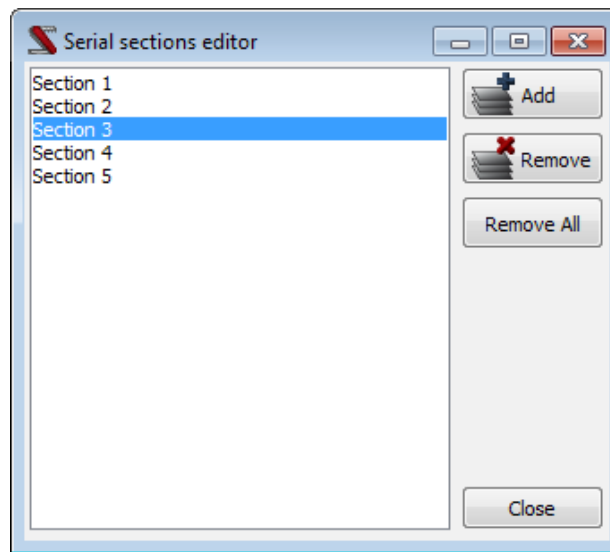

Figure 6.29: *Managing sections*
5. Open the serial sections editor (Fig. 6.29) by clicking on the button to the right of the active section display. Add a new section by clicking on the **Add** button. Close the editor. Your newly created section is now active and your marked objects are no longer visible.